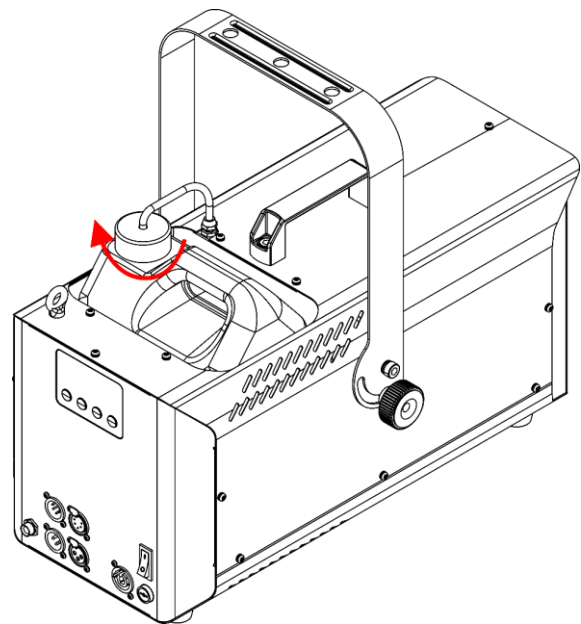

Fig. 13
- 08) Screw the lid back on the fluid tank, as shown in Fig. 13.